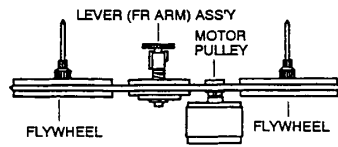

Fig. 15
- Align the height of the flywheel, the lever (FR arm) assembly and the motor pulley until the three parts are parallel (fig. 15).